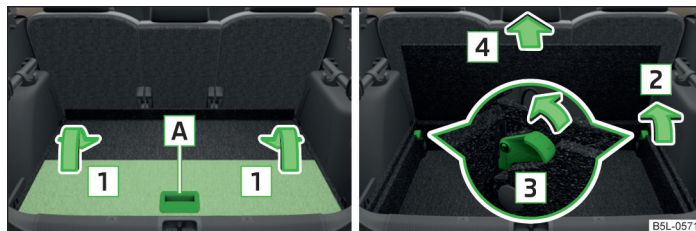

Fig. 87 Fold up variable loading floor/remove
- Fold the variable loading floor together using the handle [A] and fold in the direction of [1] » Fig. 87.